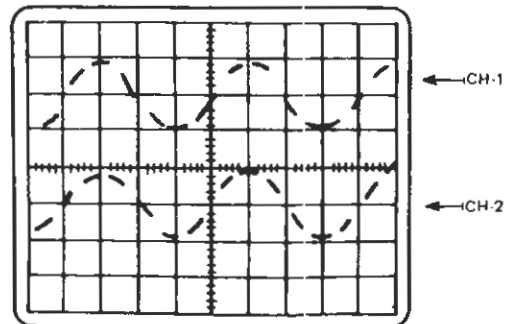

Figure 2-11. CHOP display at sweep speeds above 0.5 mS/div
2. Press either **ALT** or **CHOP V MODE** pushbutton (16). Press **ALT** for relatively high frequency displays (A TIME/DIV switch set at .2 mS or faster); press **CHOP** for relatively low-frequency displays (A TIME/DIV switch set at .5 mS or slower). If the **CHOP** pushbutton is pressed when fast sweep speeds are used, the displayed traces will appear broken (as in Figure 2-11) when signals are applied. If the **ALT** pushbutton is pressed when slow sweep speeds are used, the display will flicker excessively.